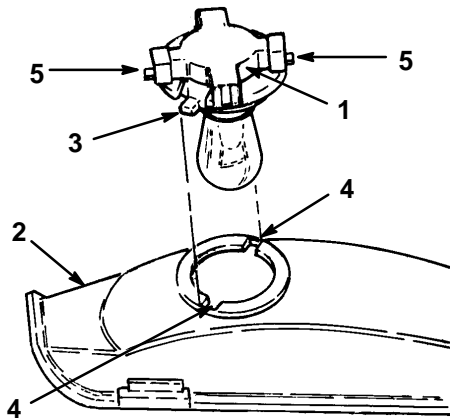

Figure 33
3. Rotate the bulb holder 1/4 turn counterclockwise and remove it from the reflector (Fig. 33).
2. The bulb holder has two tabs (Fig. 33). Align the tabs with the slots in the reflector, insert the bulb holder into the reflector and rotate it 1/4 turn clockwise until it stops.